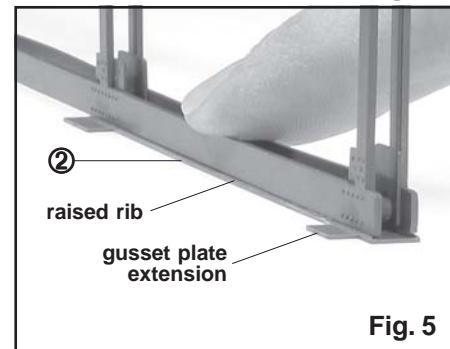

Fig. 5
Note that all bent lattices have a raised rib along each edge on one face. To assemble the **outside bent lattice**, lay part (2) flat on the work surface with the rib side up. See fig. 5. Place the bent assembly on edge on top of part (2) so the ribs are on the outside of each bent half. Cement in place, one edge at a time, while holding the bent half against the rib. Be sure the end of part (2) is flush with the end of the bent. Repeat with parts (3), (4), and (5). The eight gusset plate extensions on parts (2), (3), (4), and (5) should all extend in
See fig. 5 & 8.